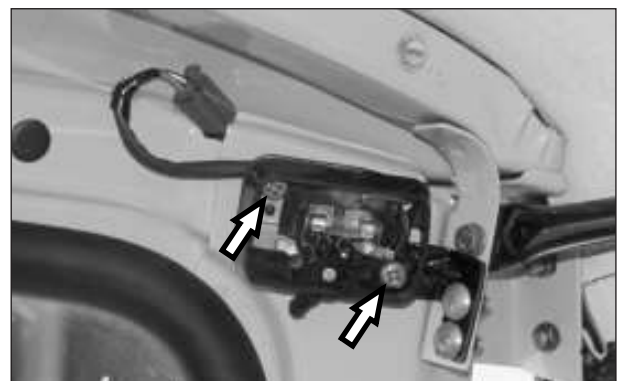

Fig. 9.33
- Loosen and remove 2 nos. CRPH screw (M6X12) lamp mounting from bracket engine bay lamp. (Fig. 9.33)